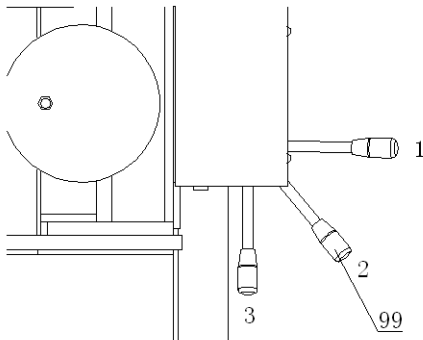

Fig 8
15.1.1 Turn the handle lever of selector valve to position 2. (refer to fig. 8)
15.1.3 Turn the handle lever (99) of socket valve to position 3 (refer to fig 8), and check if the ram is working properly; If the ram working properly, air purge is finished, if not, repeat the process 15.1.1~15.1.2
15.2.1 Turn the handle lever of selector valve to position 2. (refer to fig. 8)
15.2.3 Turn the handle lever (99) of socket valve to position 3 (refer to fig 8), and check if the ram is working properly; If the ram is working properly, air purge is finished, if not, repeat the process 15.1.1~15.1.2
15.3.2 Turn the handle lever (99) of selector valve to position 2 (fig.8), then depress the air foot valve (P54), keeping the air motor working no less than two minutes.
15.3.3 Turn the handle lever (99) to position 3 (fig 8), then depress the air foot valve (54), keeping the air motor working and check if the ram is working properly. If the ram is working properly, air purge is finished, if not, repeat the process 15.3.1~15.3.2
16.1.1.2 Turn the handle lever (99) of socket valve to position 3. (fig 8)
16.2.1.2 Turn the handle lever (99) of socket valve to position 1. (fig 8)